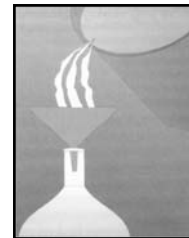
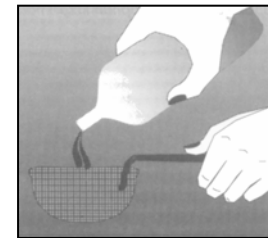

Fig. 13
Fig. 14
- To filter the oil, first make sure the oil has cooled and then empty the oil from the oil container into another container or bottle. Fig. 13 Wash and dry the oil container and basket. Refill the oil container with the oil, pouring the oil through a wire strainer or paper filter. Fig. 14